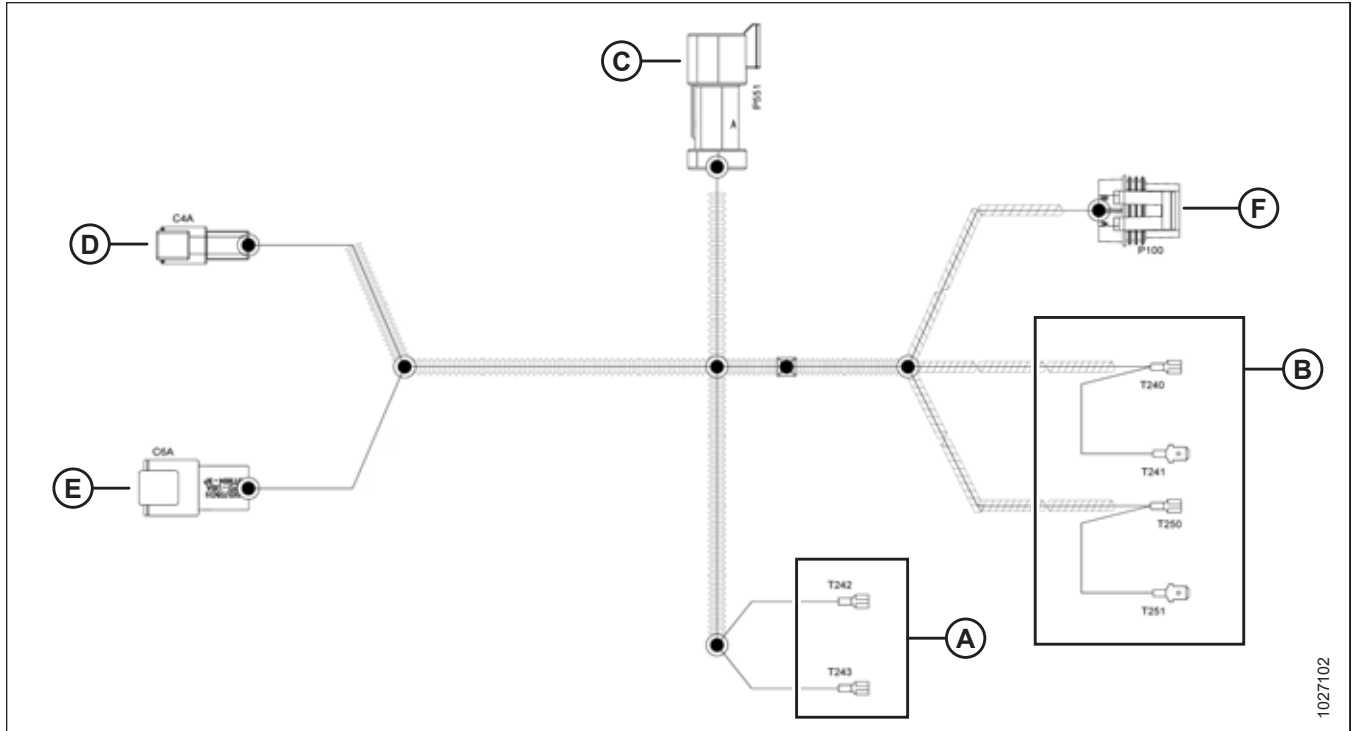

Figure 4.62: Cab Draper Control Harness (MD #304210)
For more information, refer to Figure 4.62, page 97.
24. Connect the feed end of the cab draper control harness ([B] in Figure 4.62, page 97) to the auxiliary power outlet strip as follows: